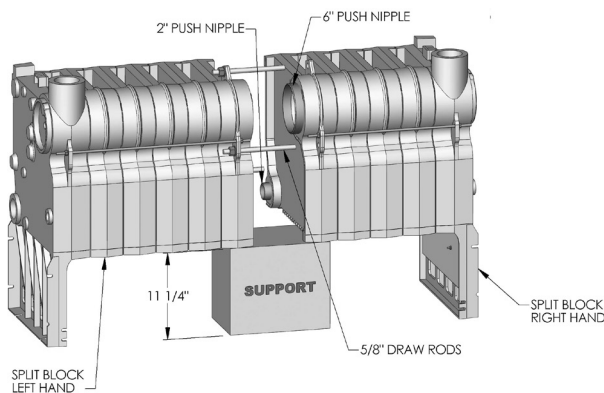

Figure 2.1: Block Assembly
2. Move each block of cast iron sections off of the shipping pallets and support them as shown in Figure 2.1.
8. Insert draw rods through the lugs provided on the mating intermediate sections. Use 5/8" draw rods as shown in Figure 2.1.